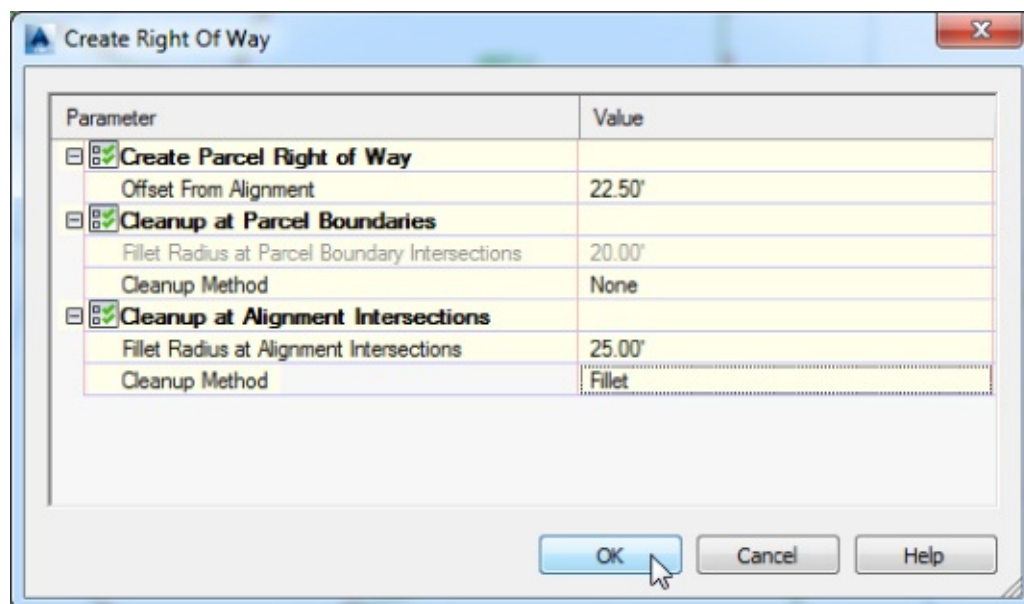

Figure 5.17 The Create Right Of Way dialog
10. Select Fillet from the drop-down menu in the Cleanup Method selection box. Verify that the Create Right Of Way dialog matches Figure 5.17.